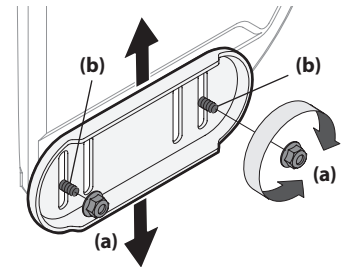

Figure 2-49
1. Loosen four hex nuts (a) (two on each side) and carriage bolts (b). Move skid shoes to desired position. See Figure 2-49.
NOTE: The skid shoes on your unit may look slightly different (and have different hardware) than ones shown in Figure 2-49.
Position skid shoes based on surface conditions. Adjust upward for hard-packed snow. Adjust downward when operating on gravel or crushed rock surfaces. See Skid Shoe Adjustment section on page 13 Figure 2-49.